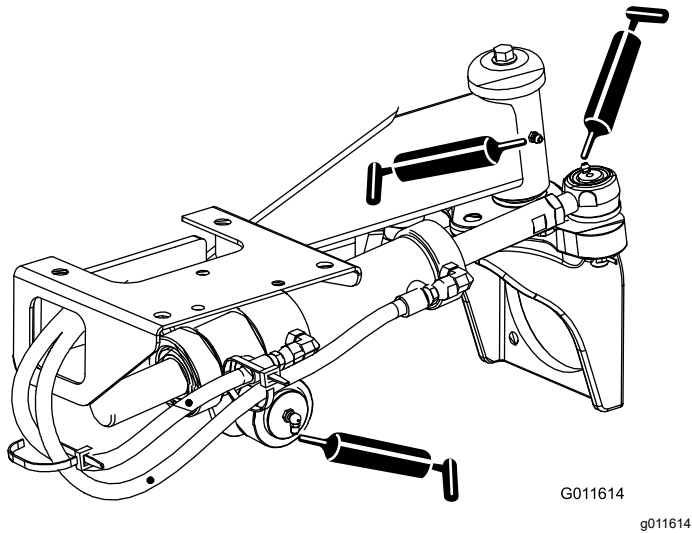

Figure 44
- Steering-cylinder ball joints (2) and rear axle (1)—Figure 44